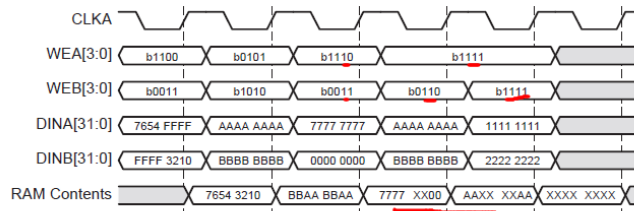

Figure 3-15: Write-Write Collision Example
- **Using Byte-Writes:** When using byte-writes, memory contents are not corrupted when separate bytes are written in the same data word. RAM contents are corrupted only when both ports attempt to Write the same byte. Figure 3-15 illustrates this case. Assume  $ADDR_A = ADDR_B = 0$ .